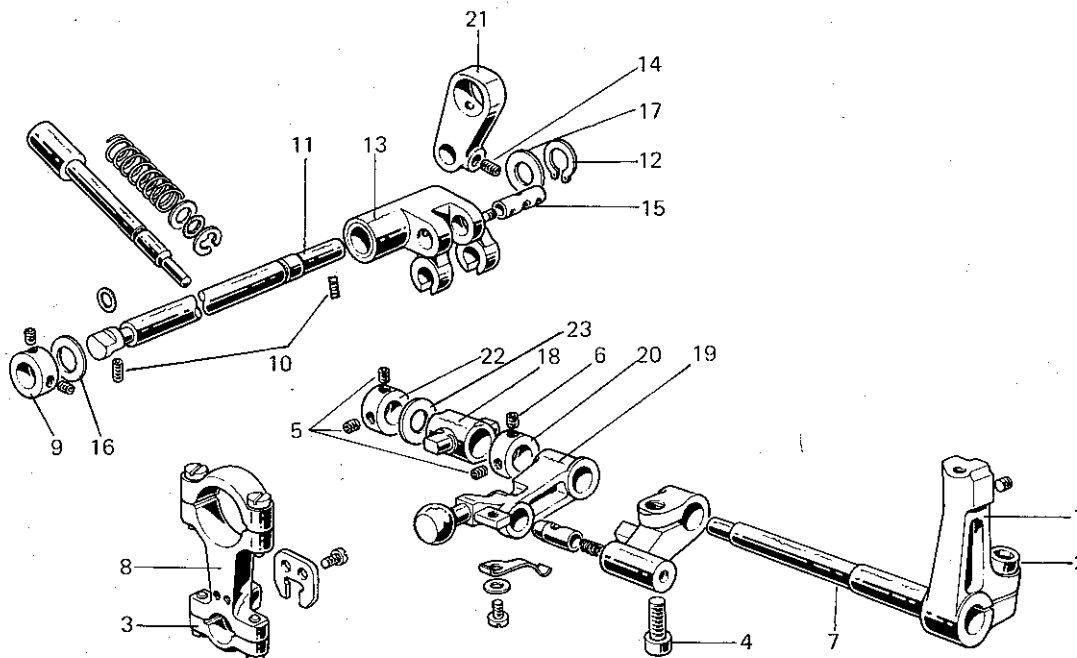

fig. 1
- Take off shaft 7 (fig. 1)
- Disassemble big-end of con-rod 8 (fig. 1)
- Unscrew ring screws 9 (fig. 1)
- Slacken screws of retainer 10 (fig. 1) set in the base at the end of pin 11 (fig. 1)
- Remove snap ring 12 (fig. 1) and take out pin 11
- Disassemble lever 13 (fig. 1) removing screw 14 and taking out pin 15
- Take off con-rod 16 (fig. 1) levering on the machine handwheel and springing the shaft outwards; this is the only way to disassemble said con-rod.
- Insert con-rod 21 (fig. 1), levering on the machine handwheel and springing the shaft outwards. Make sure that the setting notch on the con-rod is facing towards the outside of the machine.
- Assemble lever 13 (fig. 1) to the con-rod by inserting pin 15 (fig. 1), take care to insert it with the internal wick plug screw towards the outside of the machine and the notch turned towards the hole for screw 14 (fig. 1).
- Insert pin 11 (fig. 1), setting the following parts on it in this order: ring 9, washer 16, lever 13, washer 17 and snap ring 12 which is fitted with the special clamp in the collar on the shaft.
- Bring ring 9 (fig. 1) close up, thus packing lever 13 (fig. 1).